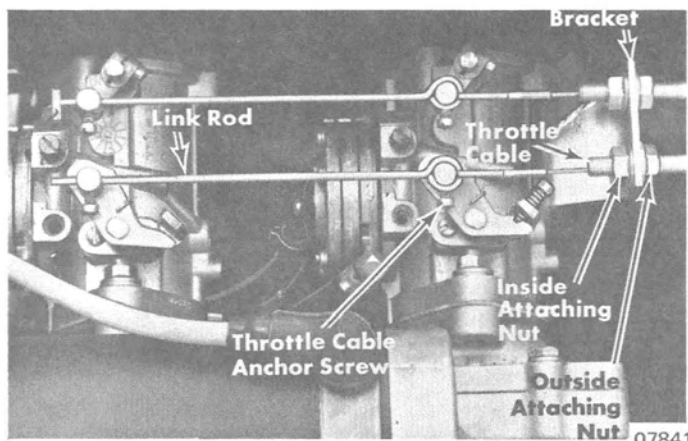

Figure 2. Carburetor - Mark II (Chassis Serial No. 3591478 and Below)
*NOTE: On Mark II Model, link rod (Figure 2) need not be removed to remove throttle cable.*